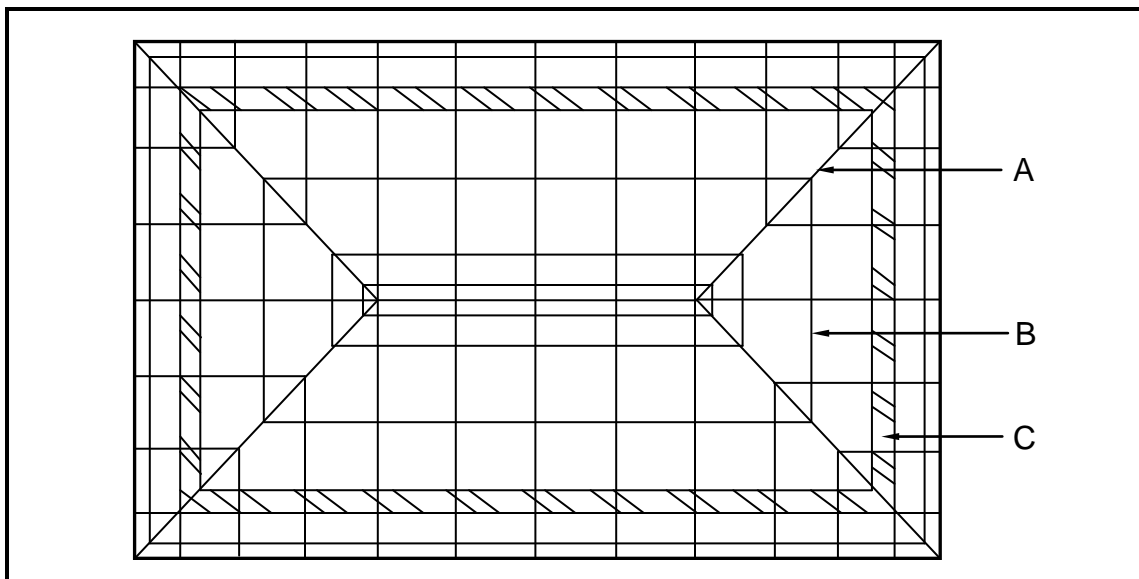

FIGURE 1.9
1.9 FIGURE 1.9 shows the incomplete top view of a roof layout showing the roof trusses and the outer walls of a rectangular building. Analyse the illustration and answer the questions that follow.
1.9.2 Name the type of roof shown in FIGURE 1.9. (1)